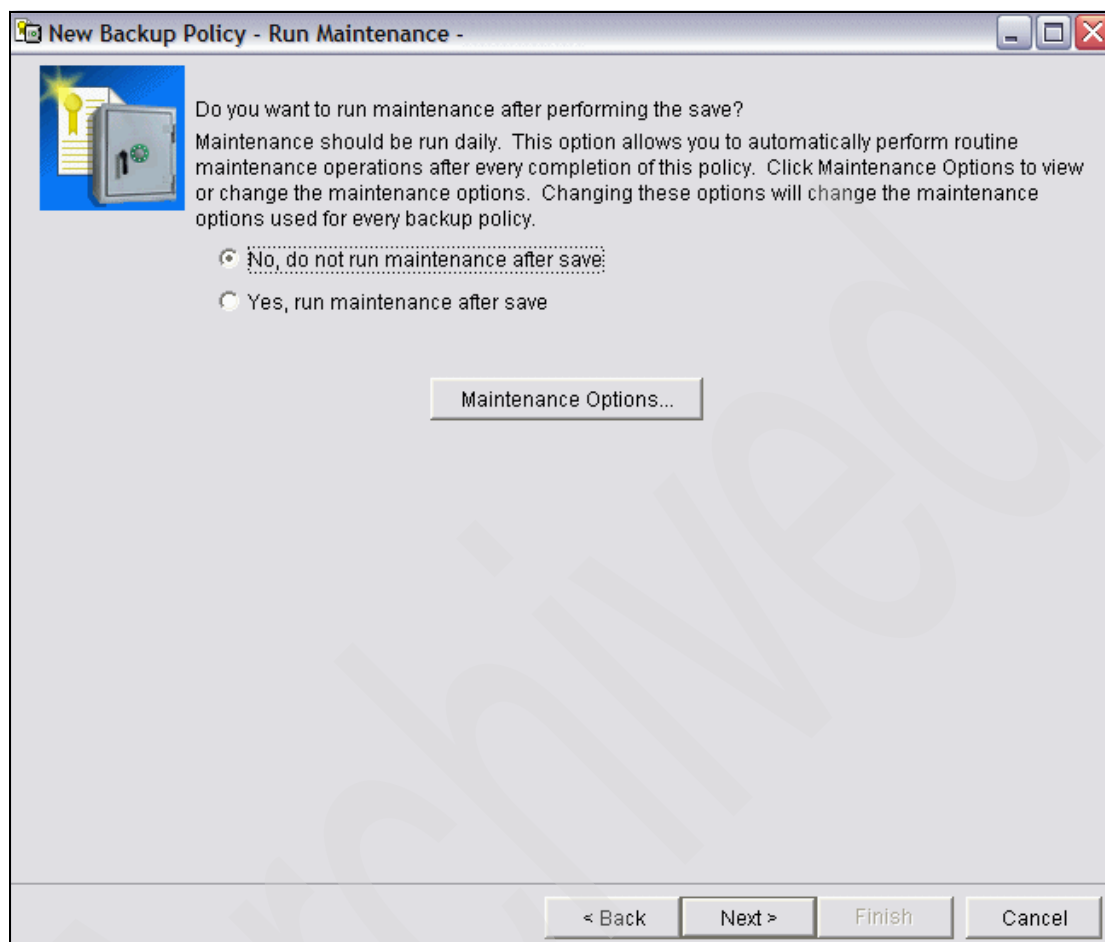

Figure 7-28 Run maintenance
4. When backup is done, since BRMS maintenance is not going to be run and will be a separate task in this scenario, select **No, do not run maintenance after save**, and click **Next**, as shown in Figure 7-28 on page 360.